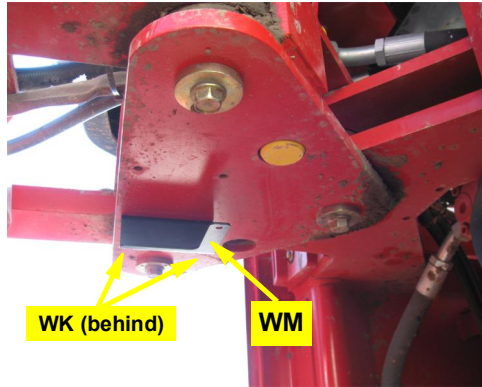

Figure 2b: Installed WAS rod mount bracket
- b. Using hardware **WK** (not shown - see Figure 2f-ii on page 20), attach the WAS rod mount bracket **WM** to the articulation point. Use the threaded holes on the left side of the articulation point (Figure 2b).